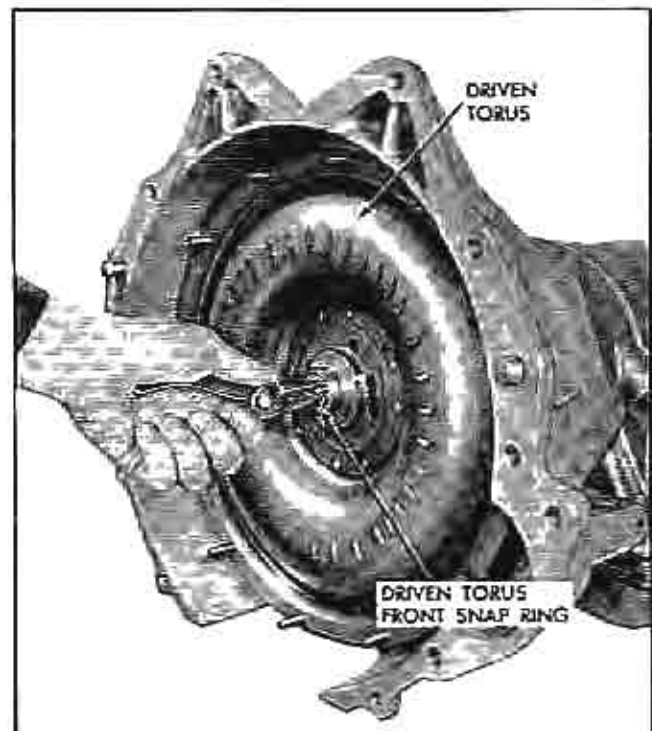

Fig. 46 Removing Driven Torus Front Snap Ring
5. Using tool J-4880 (Fig. 46), remove Truarc snap ring from main shaft (snap ring which positions driven torus member).